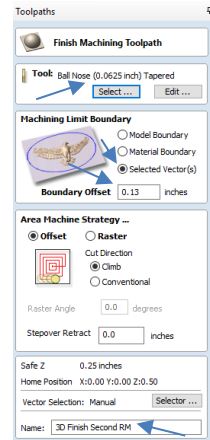

Fig.23
27. In Machining Limits Boundary – choose Selected Vectors. This will complete the detailing of your project (Fig. 23)
28. Boundary Offset – enter the radius of your previous cutter plus .005" (.125 + .005 = .13) Add RM to the name. (Fig. 23).